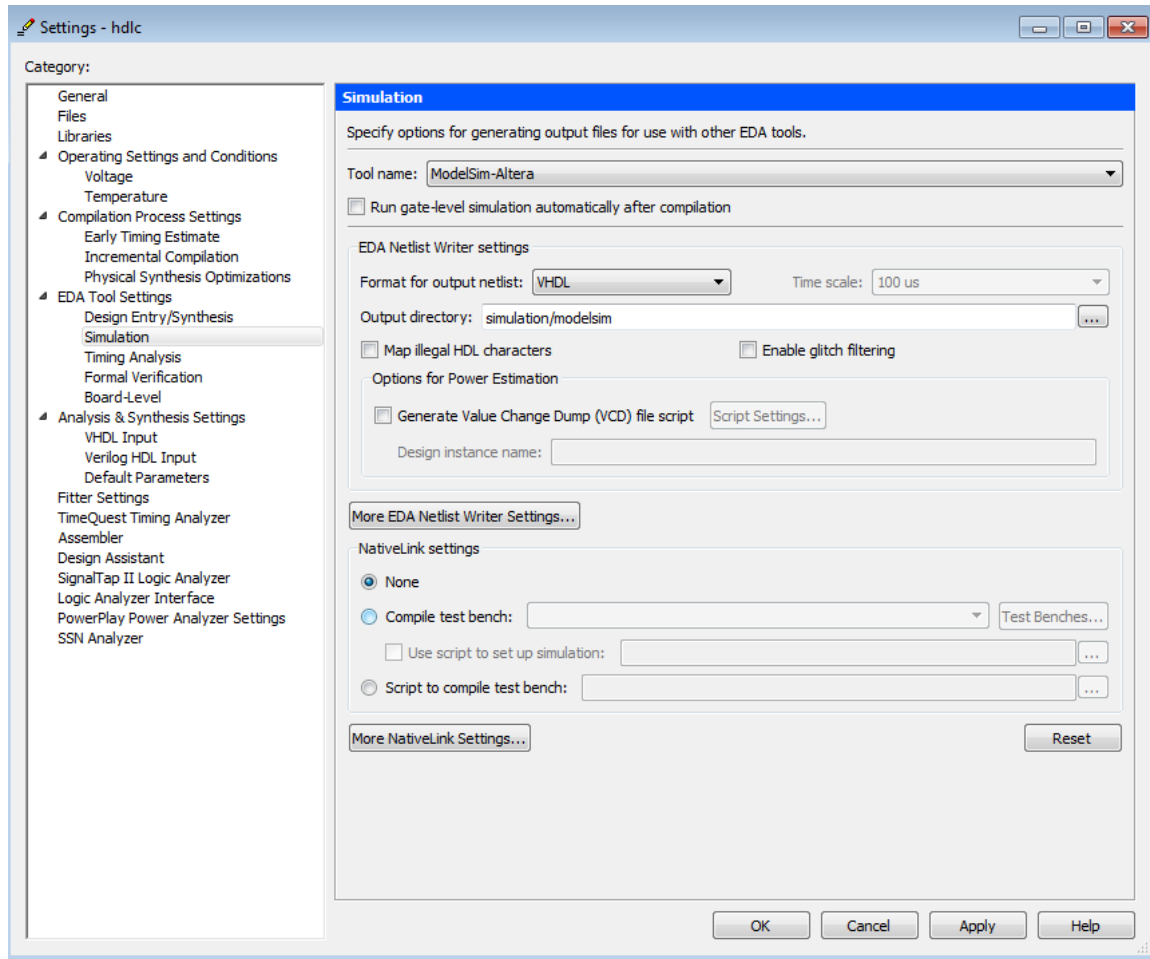

Figure 2
- d. In the Simulation window as shown in Figure 2, choose **ModelSim-Altera** for **Tool name**